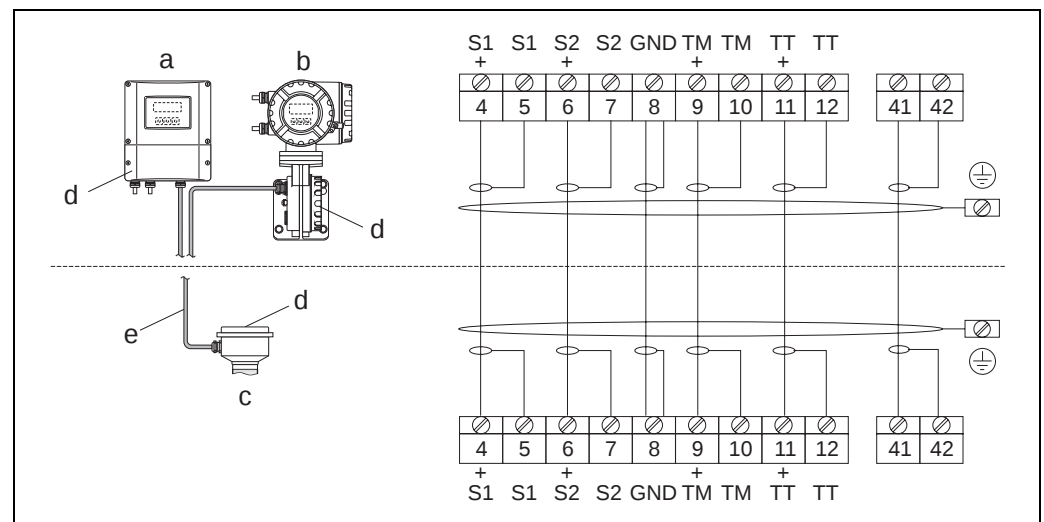

Fig. 11: Connecting the remote version
3. Establish the wiring between the sensor and transmitter in accordance with the wiring diagram (→ Fig. 11 or wiring layout in the screw cap).